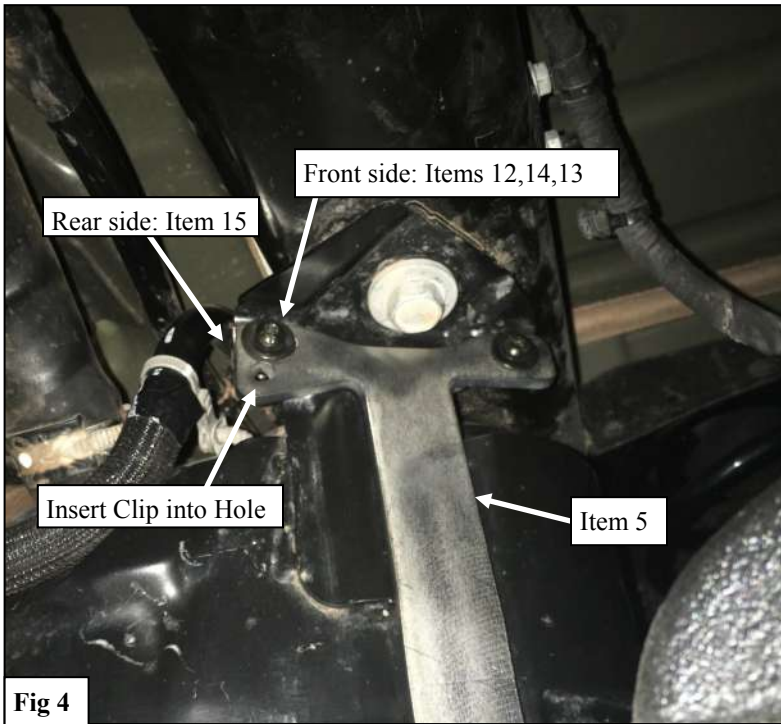

Fig 4
6. Loosely install Bracket D (5) to the driver side rear section of the gas tank using the supplied M6 Hardware. See **Figure 4**.
Note: Remove plastic clip from gas tank and insert into the hole in the bracket. See **Figure 4**.